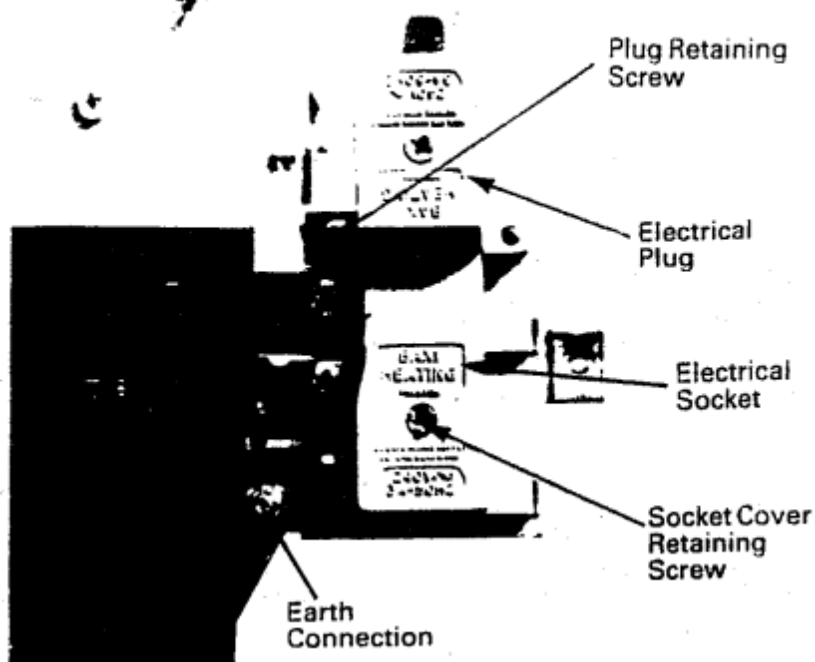

Fig. 7. Electrical Plug & Socket
2. Remove the electrical socket cover by removing the retaining screw (Fig. 7).
4. Refit the electrical socket. Connect the earth wire to the point provided (Fig. 7).
4. Disconnect the electrical plug and socket by removing the screw and pulling the electrical plug upwards (Fig. 7).